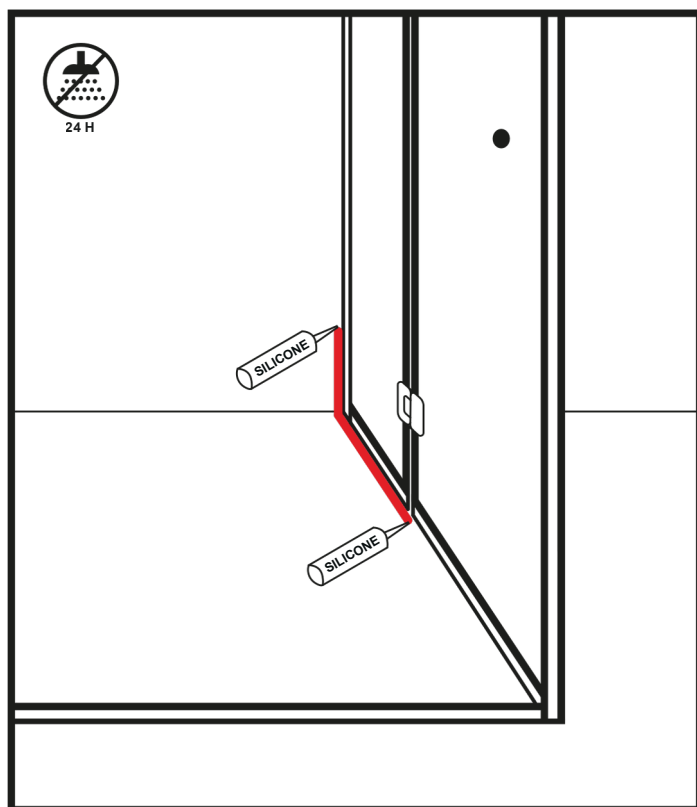
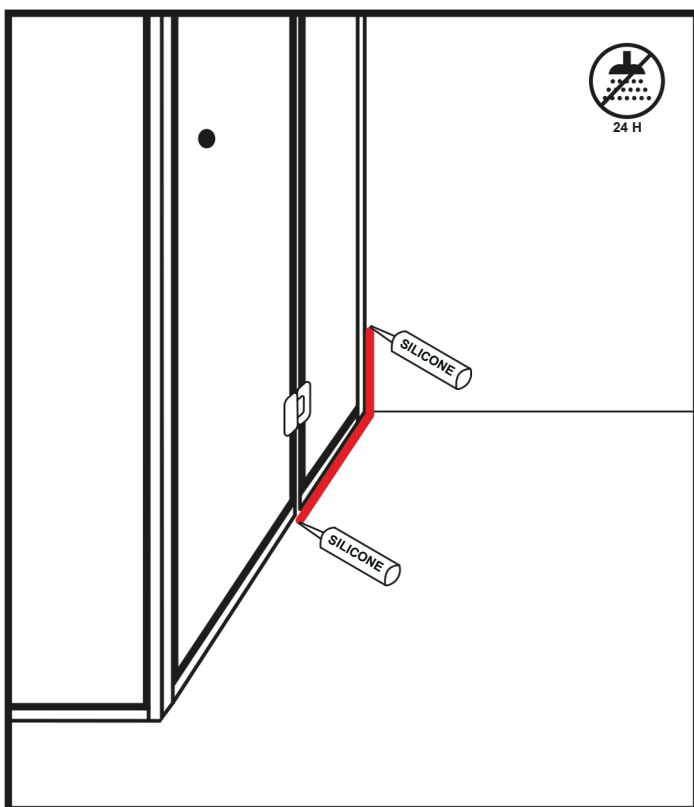
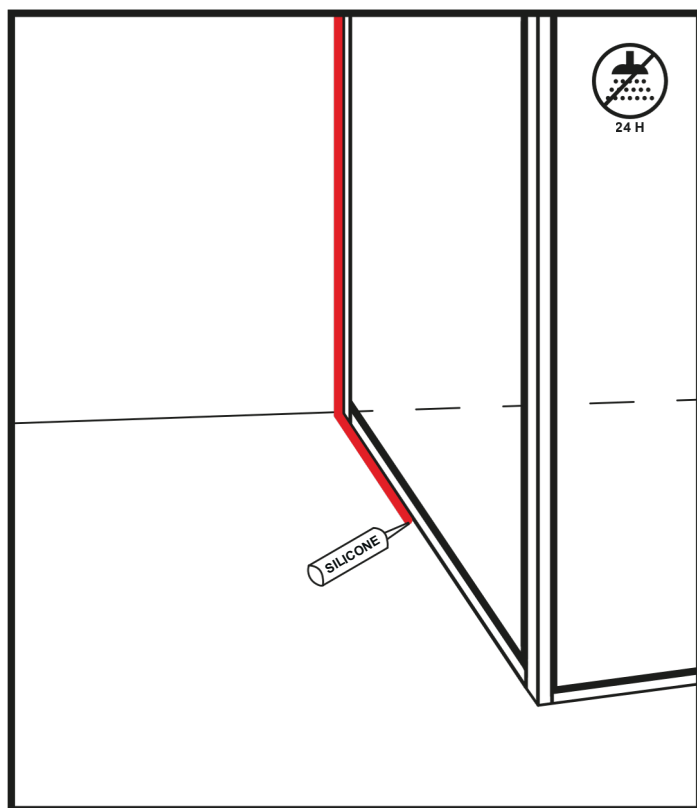
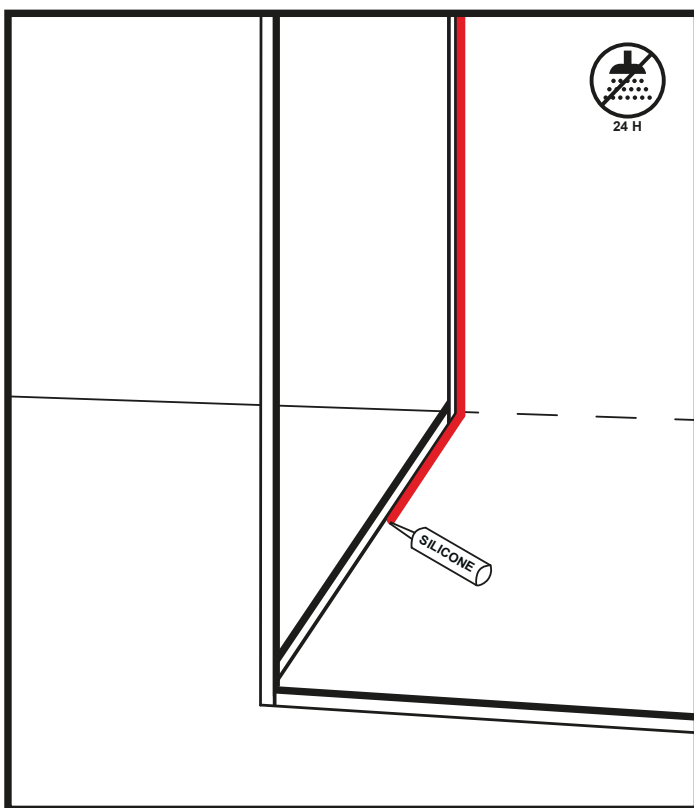

Figure 13
Figure 14
Figure 15
Figure 16
42. Apply an even bead of silicone to the edges of the U-profile on the inside (Figure 13 and Figure 16) and outside (Figure 14 and Figure 15) of the shower enclosure.